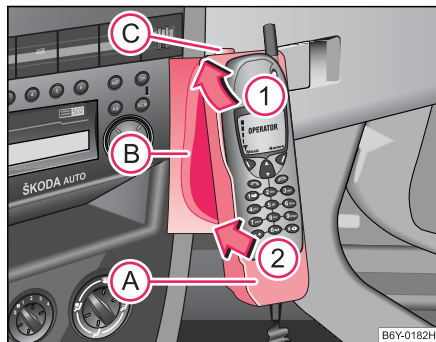

Fig. 89 Universal telephone connection
- First insert the adapter with the mobile phone into the mount (B) in the direction of arrow (1) ⇒ fig. 89 until the adapter is touching the stop. Press the adapter slightly in the direction of arrow (2) until it locks into position.
- Insert the mobile phone into the adapter (A) (as specified in manufacturer's instructions).